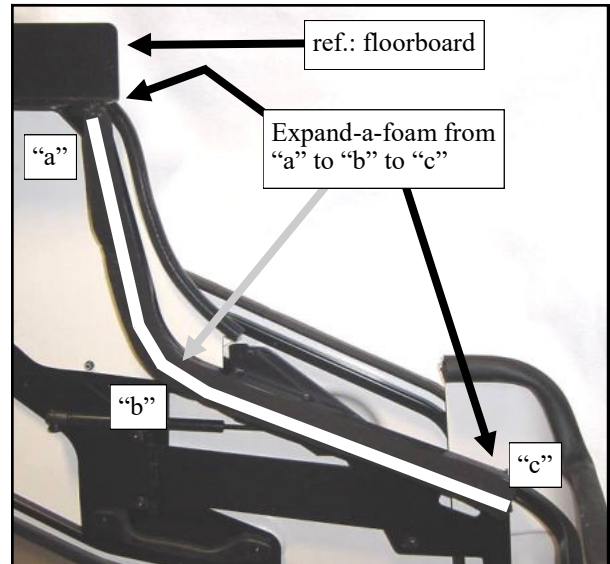

Fig. 3.1 (view of upside down driver's side assembly)
3.1 Cut the supplied Expand-a-foam into two pieces that are 29" long. With assistance, position the driver's side side side frame assembly upside down so the floorboard is up as shown in fig. 3.1. Note: for clarification, the Expand-a-foam is represented by a heavy white line in the photo. Install one 29" long piece of Expand-a-foam to the in-board surface of the tubing as shown. Note: self-adhesive foam should be applied to a clean, dry surface at room temperature for best adhesion. Begin the installation near the floorboard (a) and end it at approximately point c where shown. Note: the expand-a-foam can take up to 24 hours to expand out to its full 2". This process can be speeded up, or aided by applying heat with a heat gun or similar appliance. Repeat for opposite side frame assembly (passenger's side).